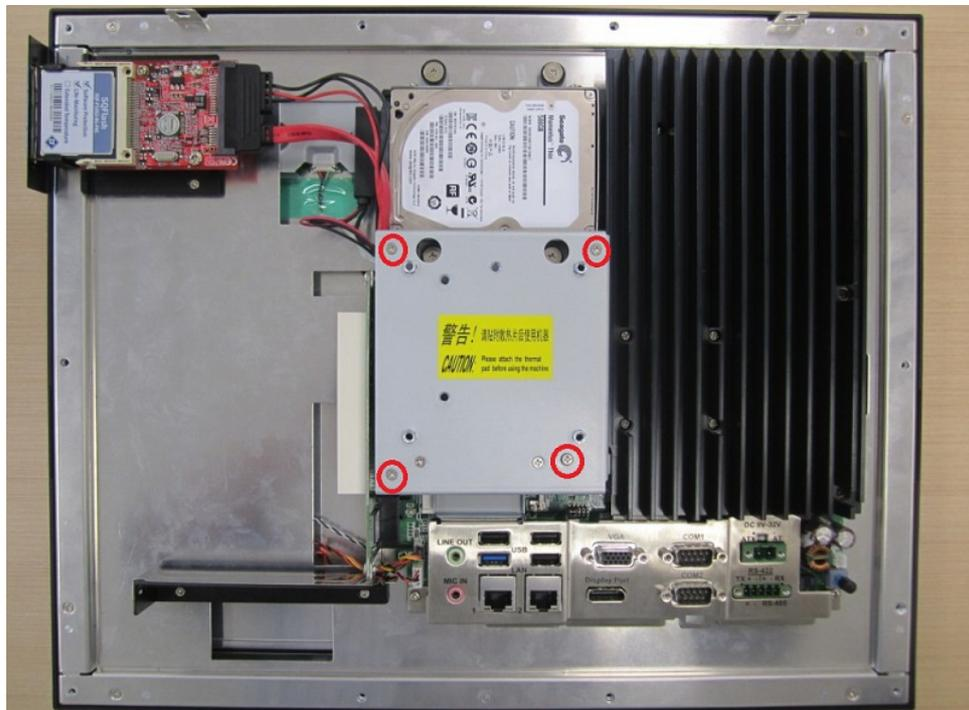

Figure 2.47
5. Follow Step 7 in Section A to fix VESA cover.(See Figure 2.47) Then replace the rear cover and fix it to complete the installation.